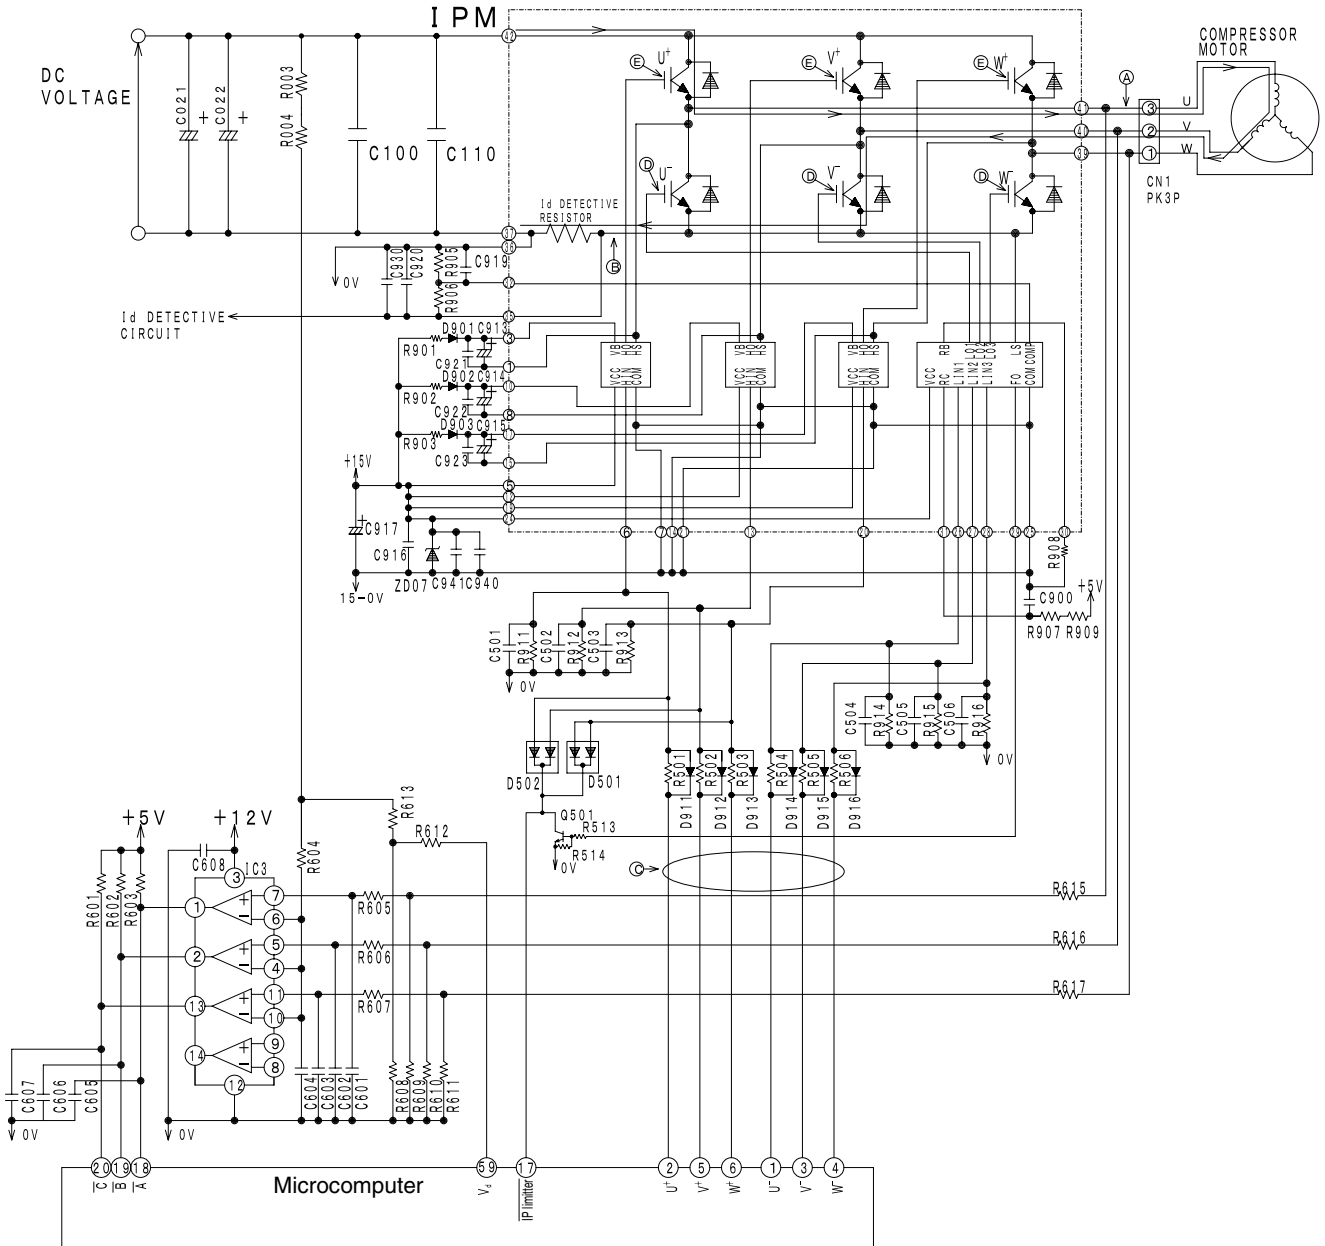

Fig. 4-1 Intelligent power module circuit (U⁺ is ON, V⁻ is ON)
- Fig.4-1 shows the intelligent power module and its peripheral circuit. The three transistors on the positive (E) side are called the upper arm, and the three transistors on the negative (D) side, the lower arm.